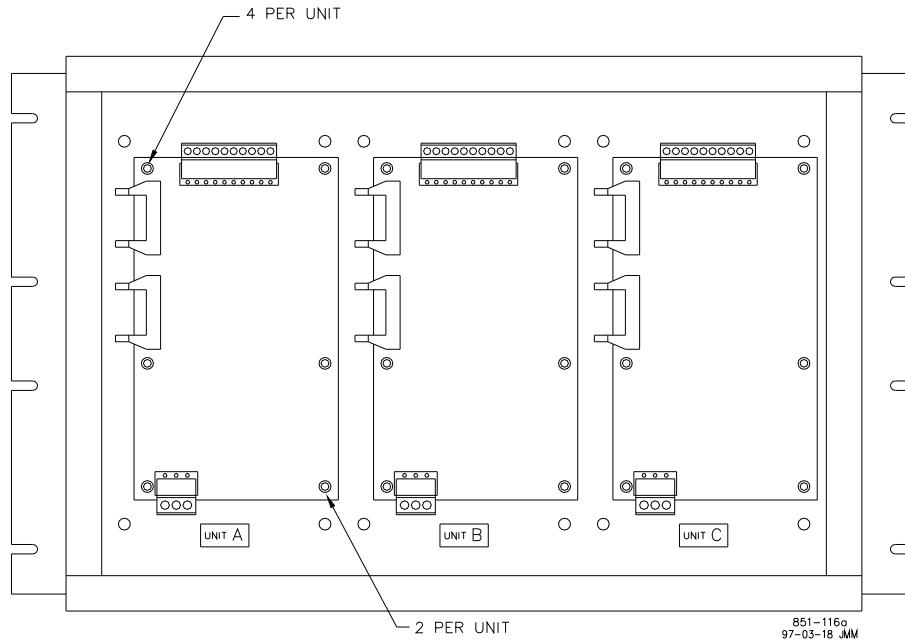

Figure 5-3. Board Locations
6. Unscrew the four long screws holding the two-board pack together (Figure 5-3).
4. Insert and position the new power supply board (Figure 5-3).